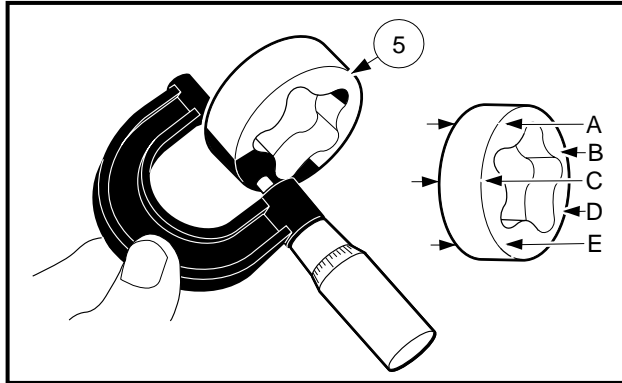

Figure 13-69 Measure Outer Rotor Thickness
- 4.4. Using a micrometer, measure the thickness of the outer rotor at several points (**Figure 13-69, Page 13-34**).